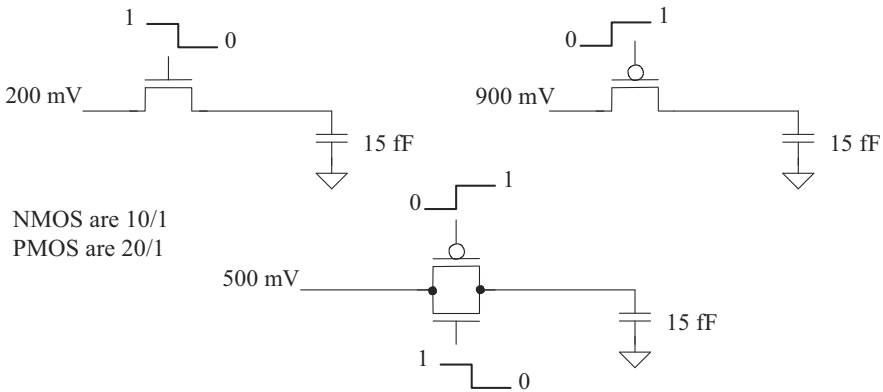

Figure 25.40 Circuits used in Problem 25.1 to show clock feedthrough.
- 25.1** Using SPICE simulations, show the effects of clock feedthrough on the voltage across the load capacitor for the switch circuits shown in Fig. 25.40. How does this voltage change if the capacitor value is increased to 100fF?